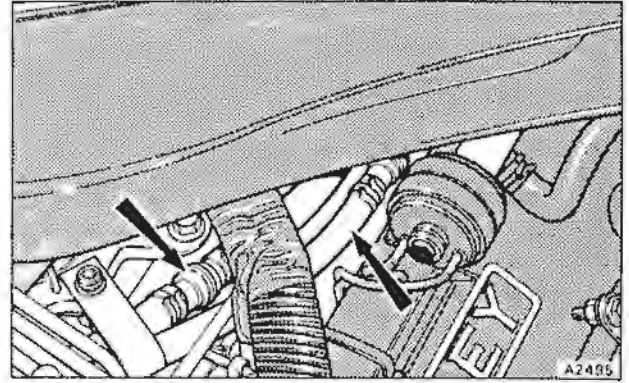

Fig. D3-14 Dump valve signal hoses
1. Free the two flexible hoses from their respective connections on the bottom of the dump valve (see fig. D3-14).